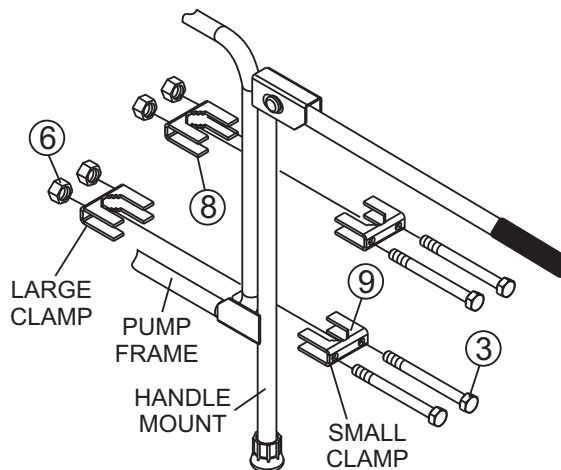

Figure 3. Securing the Handle Mount to the Frame.
6. Lifting the front of the unit, set the rounded corner of the frame tubing into the support bracket on the handle mount (Figure 3). Secure the handle mount to the frame tubing by placing a **large clamp clip** (item 8) around the frame tubing and the handle mount.
7. Next, insert the **small clamp clip** (item 9) on the other side of the handle mount and frame tubing, so that the large and small clamp clips are facing each other.